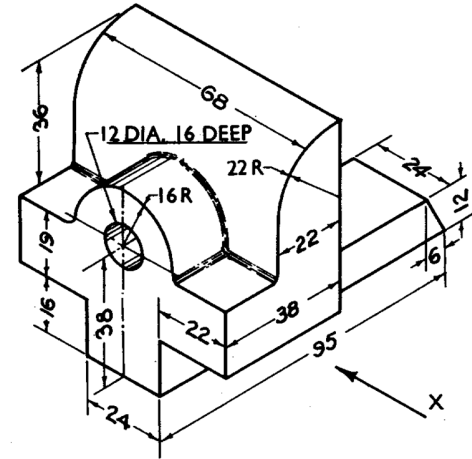

FIG. 18-45
(23) Fig. 18-45: (i) Front view. (ii) Both side views. (iii) Top view.